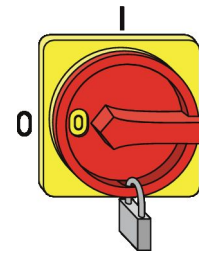

Fig. 5: Securing the mains isolator
2. ▶ Secure the mains isolator with a padlock ( Fig. 5 ).